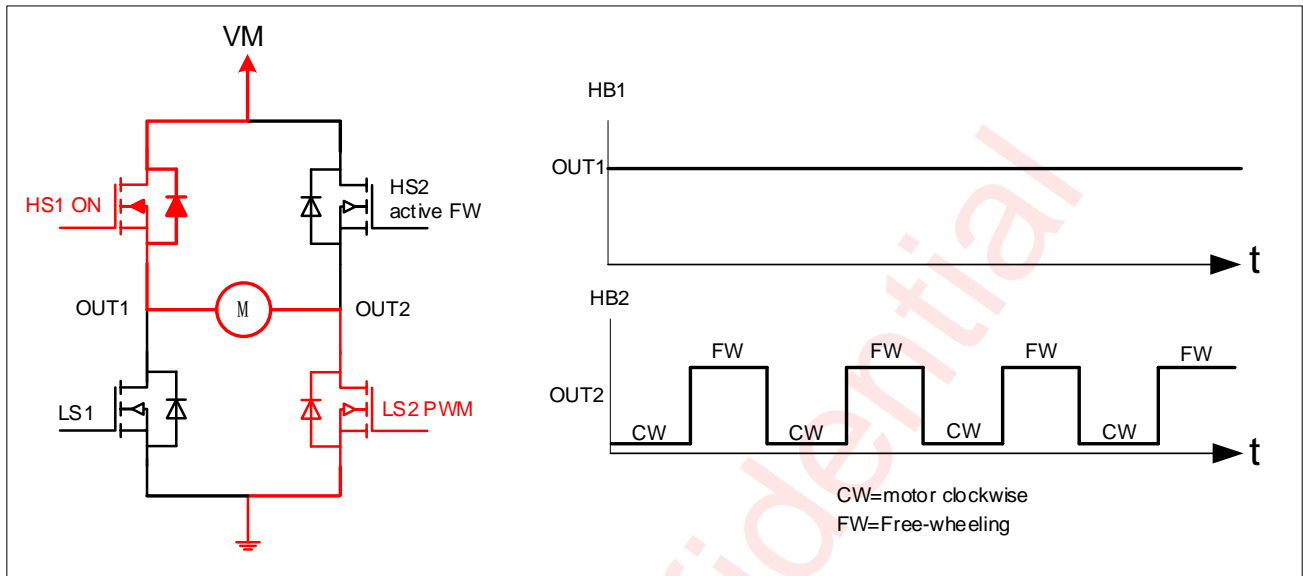

Figure 1 The considered output is not put in parallel with another one
An illustration of a full bridge combination drive example is shown in Figure 1, with OUT1 and OUT2 driving a DC brush motor. In this configuration, HS1 is always driven, while LS2 is driven in PWM operation. HS2 is used to actively freewheel (FW) the motor current load, thereby reducing the power dissipation of the device.